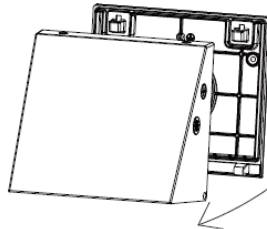

Fig. 2.2
2. Remove the mounting plate from the front cover of the luminaire (Fig. 2.2).